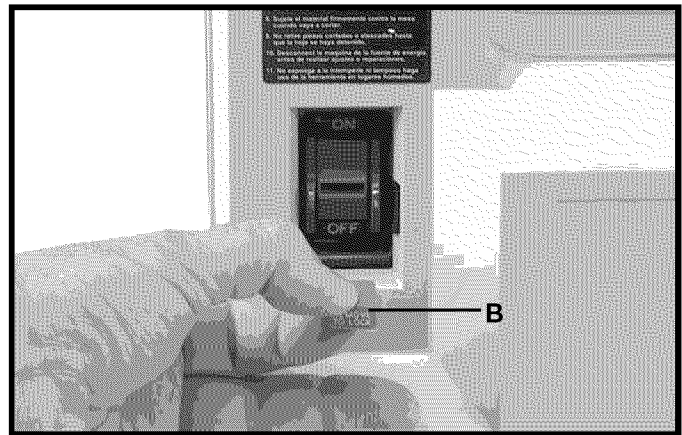

Fig. 21
When the tool is not in use, the switch be locked in the “OFF” position. This can be done by grasping the switch toggle (B) Fig. 21, and pulling it out of the switch, as shown. With the switch toggle (B) removed, the switch will not operate. However, should the switch toggle be removed while the machine is running, the switch can be turned “OFF” once, but cannot be restarted without inserting the switch toggle (B).